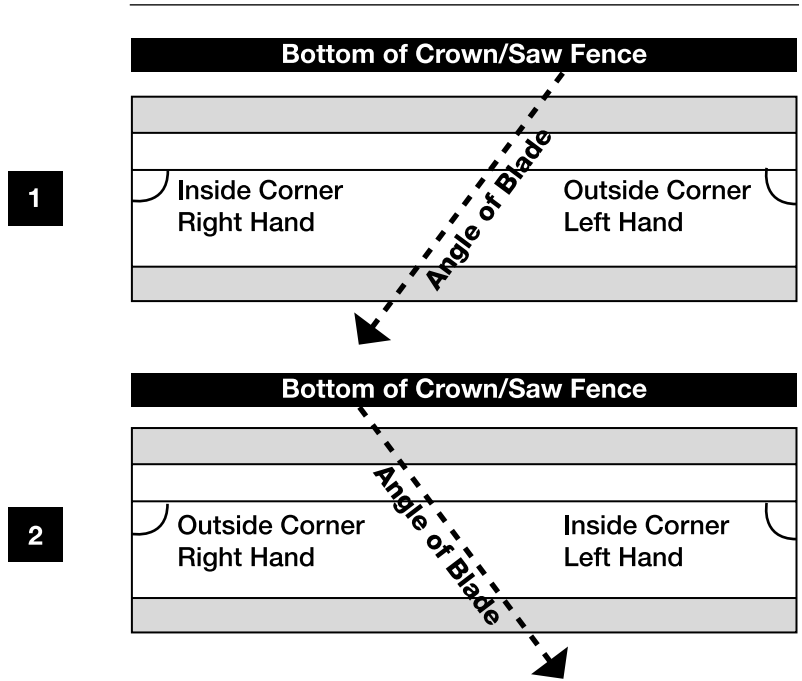

Fig 4.
1. Cut two lengths of crown moulding about 16 inches long. Set the crown moulding on a flat surface as shown on the diagram below. Label the pieces as follows [Fig 4.];